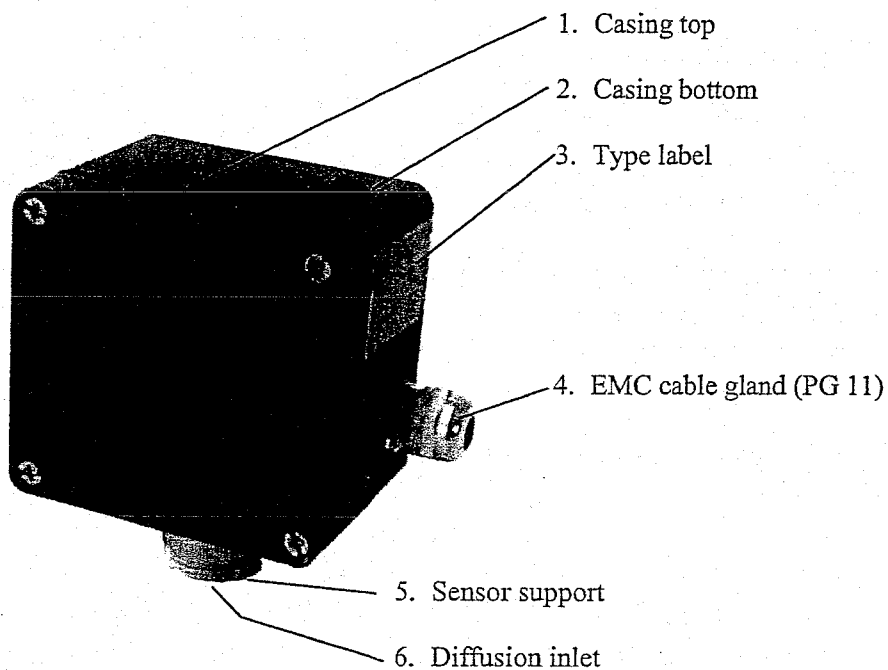

Fig. 2
The design of the ZD21 is shown in fig. 2. The sensor is mounted in the sensor support (pos. 5). The gas enters the sensor chamber through the diffusion inlet (pos. 6). The casing (pos. 2) includes a resin encapsulated p.c.board with electronic components. The electronics convert the measurement signal into the output of 0.2 .. 1 mA or 4 .. 20 mA, which is supplied to the controller by means of cable.